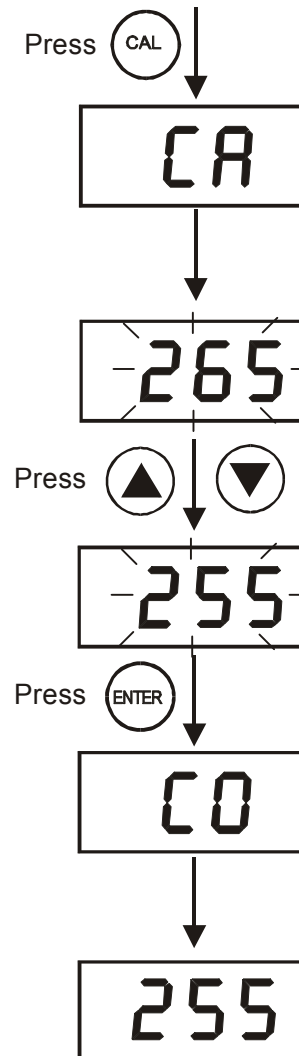

Figure 3 - ORP Calibration Procedure
5. Press the ▲ or ▼ keys to adjust the display to match the calibration standard value. Press the ENTER key. "CO" will flash on the display. The reading should now display the same value as the calibration standard. See Figure 3.